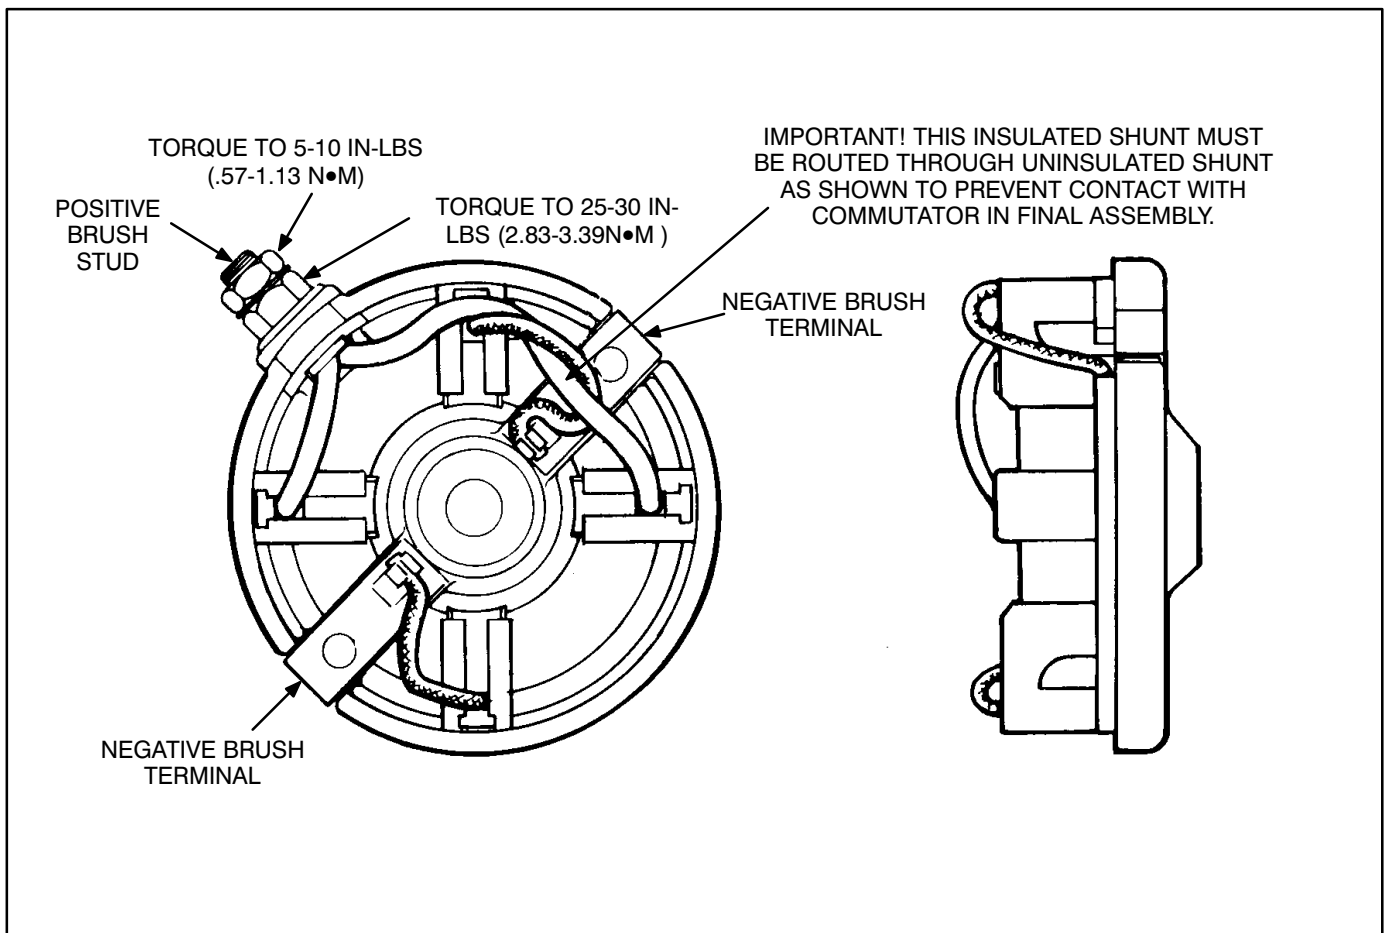

FIGURE 8-17. BRUSH ENDCAP
2. Push the negative brush terminals over the through-bolt holes on the brush endcap (Figure 8-17).